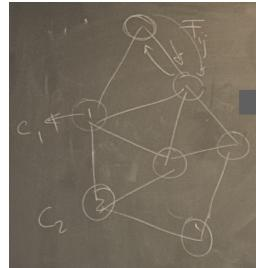

Figure 2.11: Simplified graph of a biochemical network.
- Suppose you have a (biochemical) network, and we control each transition between nodes locally (Figure 2.11).